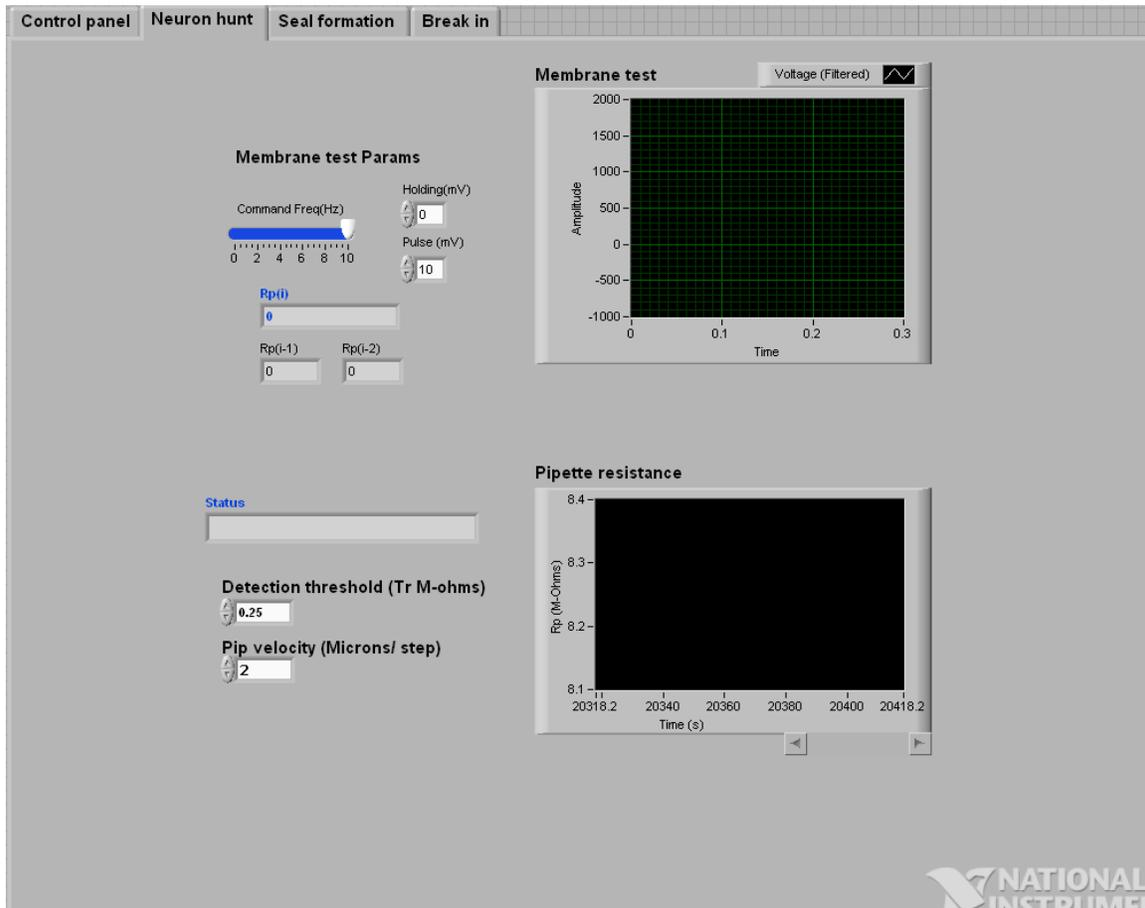

Figure 2.2.2: Computer screen capture of the Neuron Hunt tab in the Autopatcher program
2.2.2. Neuron Hunt Tab Settings (Fig. 2.2.2)